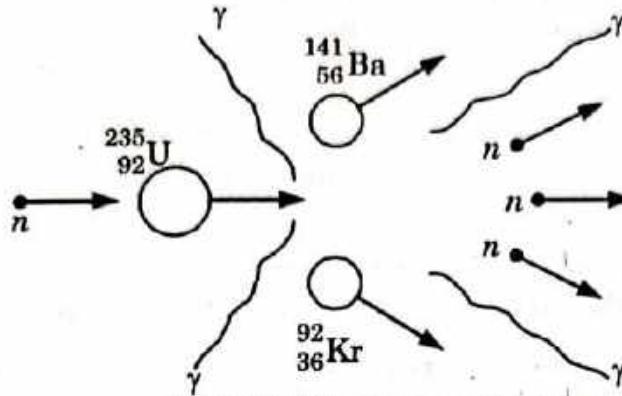

Fig. 2.14.1. Nuclear fission.
4. The diagrammatic sketch is given in Fig. 2.14.1. A neutron strikes the $^{235}_{92}\text{U}$ nucleus and in the process two nuclides $^{141}_{56}\text{Ba}$ and $^{92}_{36}\text{Kr}$ are formed with the release of 3 neutrons.